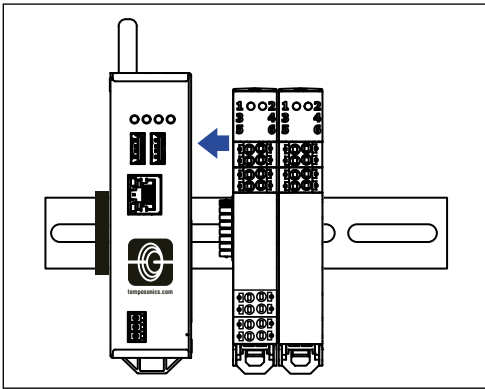

Fig. 7: Moving and connecting the connection modules to the gateway
3. Move the connection modules with the DIN rail connectors to the gateway (Fig. 7). Make sure that the DIN rail connectors are completely inserted into the mating connector. Secure the connection modules against accidental slipping out with a suitable top-hat rail clamp.